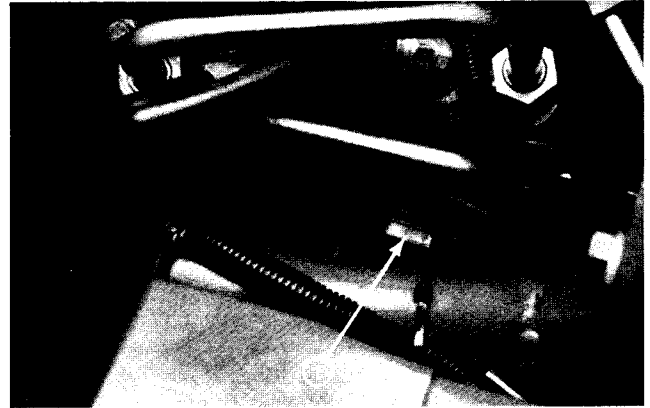

Figure 26
1. Pull connector off switch terminals of traction switch installed in valve bank bonnet on selector valve section (Fig. 26).
5. Connect a continuity tester or ohm meter to the switch terminals and continue to turn the switch in until there is continuity. Then rotate switch in 1/2 turn (180).